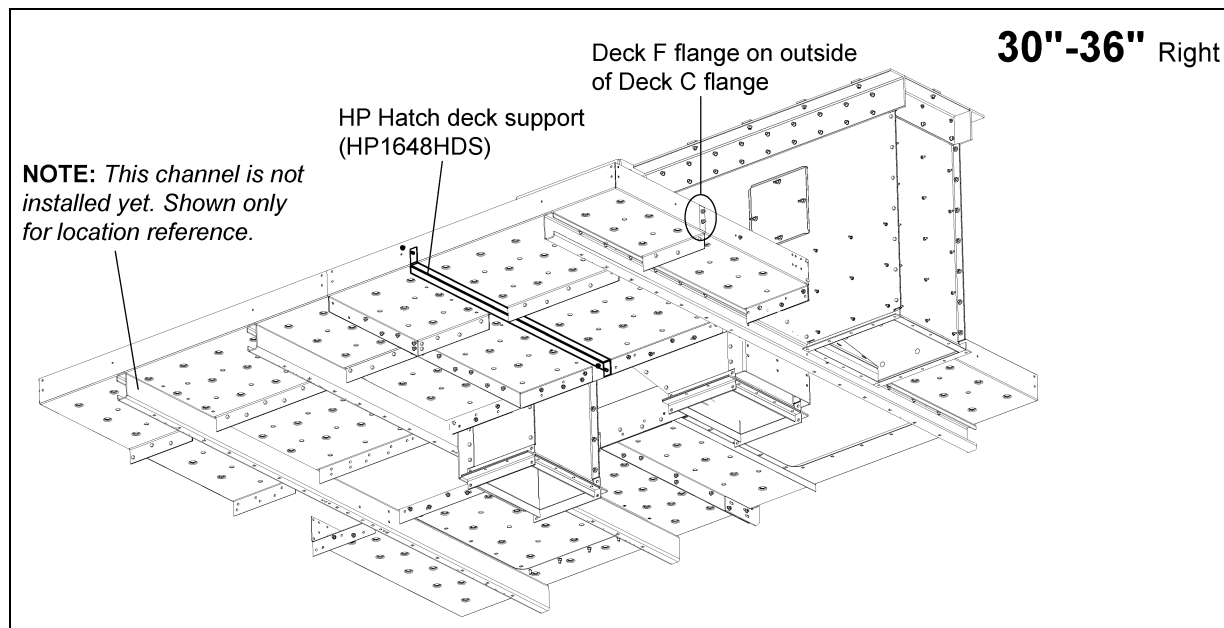

Figure 8N
5. Orient Deck F flange outside of Deck C flange. *(See Figure 8N on Page 72.)*